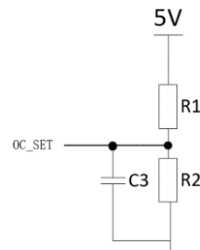

Figure 1: OC SET resistor divider
- 1) OC_SET input voltage supports $0.3 \cdot V_{CC} \sim 0.97 \cdot V_{CC}$ range, users can set the overcurrent alarm threshold of FLAG_S pin through the OC_SET input voltage (as shown in the above table), the input voltage is allowed to use VCC and resistance partial voltage for adaptive (Figure 1). When the OC_SET input voltage is in the range of $OC_SET \in (0.3 \cdot V_{CC}, 0.34 \cdot V_{CC})$, it corresponds to the minimum trigger point IFLAG; when the OC_SET input voltage is in the range of $OC_SET \in (0.91 \cdot V_{CC}, 0.97 \cdot V_{CC})$, it corresponds to the maximum trigger point IFLAG.